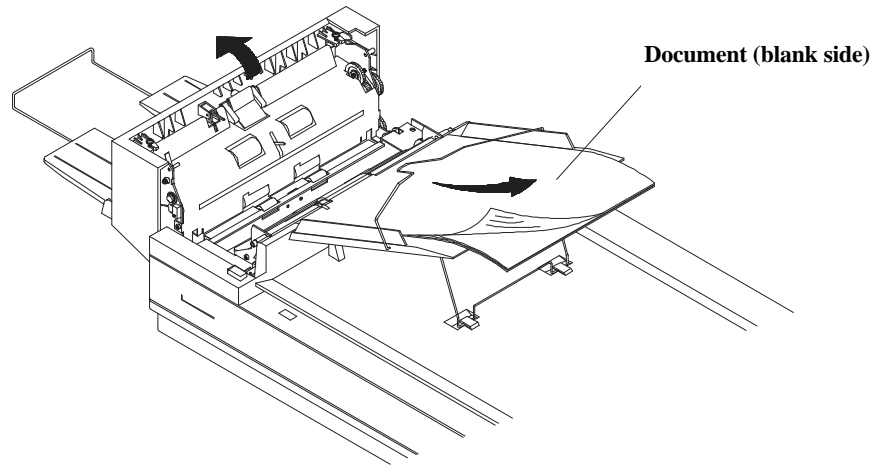

Figure 4-2 - ADF Paper Jam - Removing the Paper
- iv) Pull the paper out of the ADF unit carefully, as shown in Figure 4.2, arrow A.